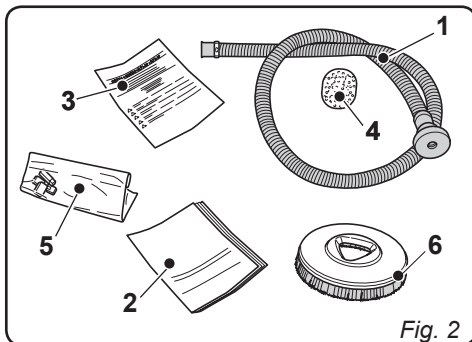

Fig. 2
- Remove the pack (1) containing the accessories supplied and the box (2) containing the brush.
2.1.a - Standard machine equipment (Fig. 2)